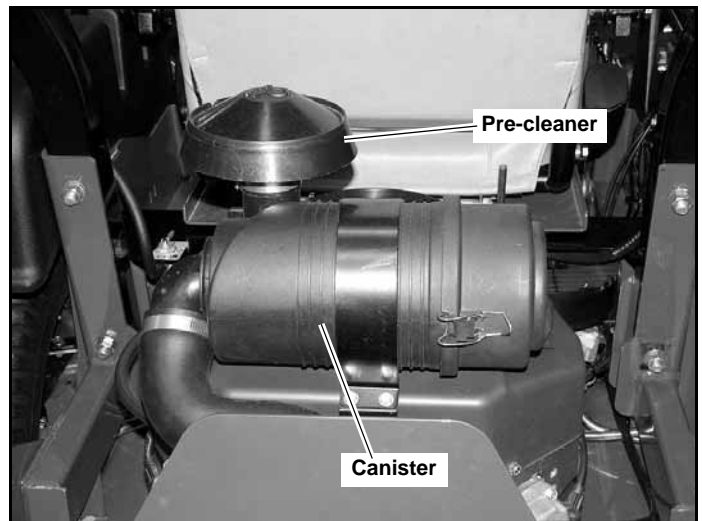

Figure 4-7
A specially designed dry filter is standard equipment on some BigDog® Mowers X Series mowers which supplies clean combustion air to the engine. An example of the air filter are shown in Figure 4-7.
3. Reinstall the dust cup. Make sure it seals all the way around the air cleaner body, then tighten the clamps. Figure 4-7